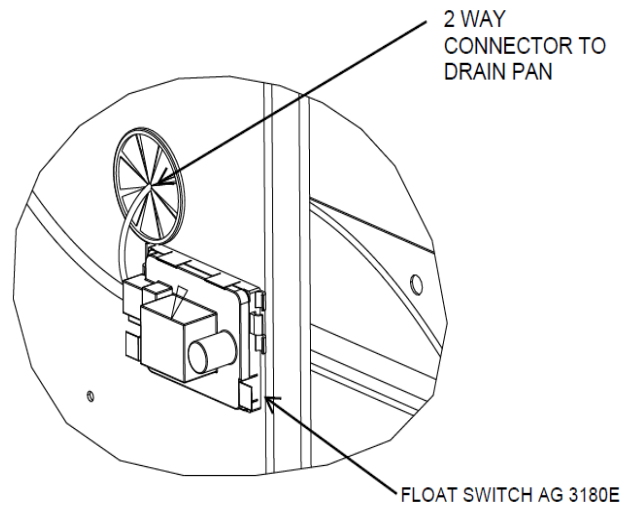

Figure 21
5. Place the AG-3180 inside the control box. Use the adhesive strip to attach the bracket to the control box as shown in Figure 21. Insert the 2 way connector from the module through the bottom bushing (1.375" grommet) towards the drain pan.